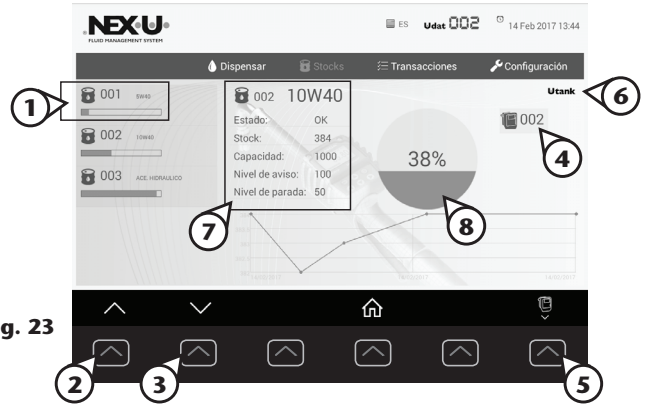

Fig. 23
In this menu (Fig. 23), the tanks list with their identifier and associated product is displayed (1). To navigate through the available tanks list use the keys (2) and (3). For each tank, the associated U-valve units (4) are displayed. When the U-valve list does not fit on the screen, navigate with the button (5).